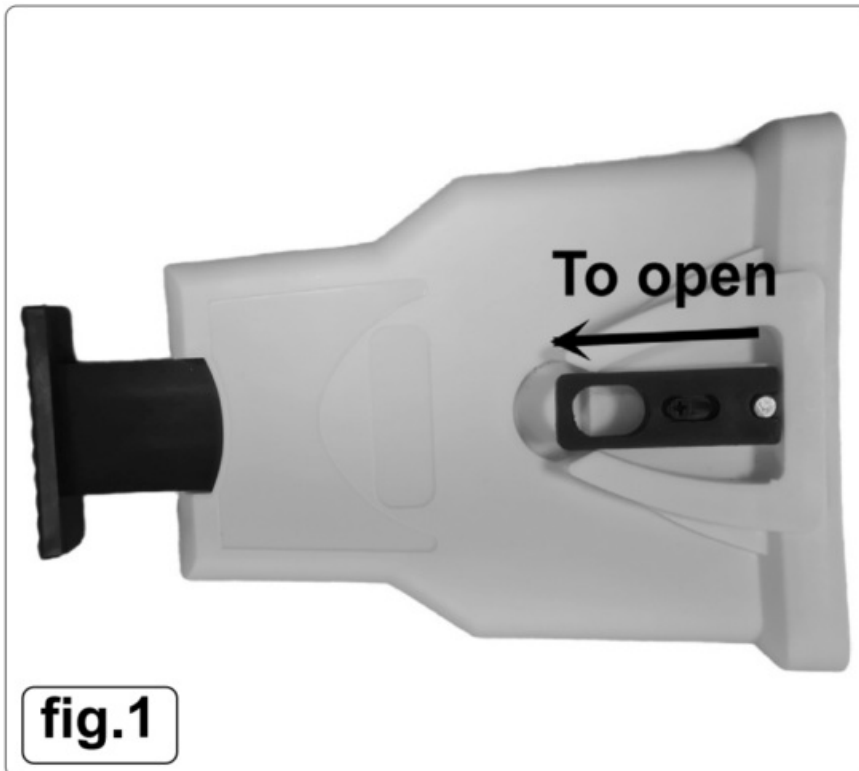

fig.1
1. Open chainsaw sharpener **fig.1**.